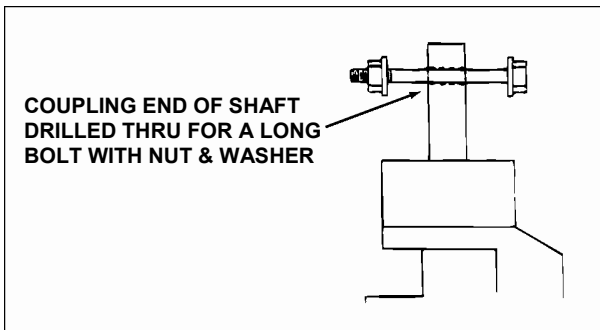

FIGURE 57 – BOLT, NUT AND WASHER ASSEMBLY
13. Thread a long bolt, washer and nut through the hole at the end of the shaft (See Figure 57).